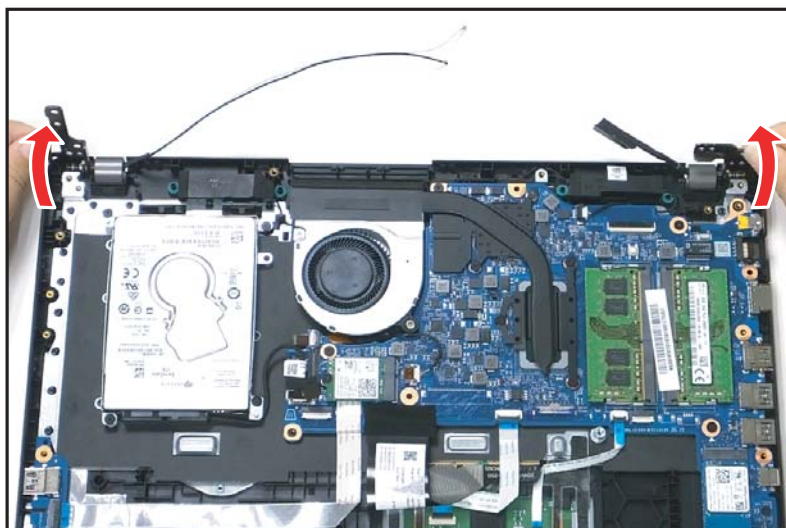

Figure 1-31. LCD Module Removal
7. Close the top assembly and lift both LCD hinges until they are fully extended (Figure 1-31).